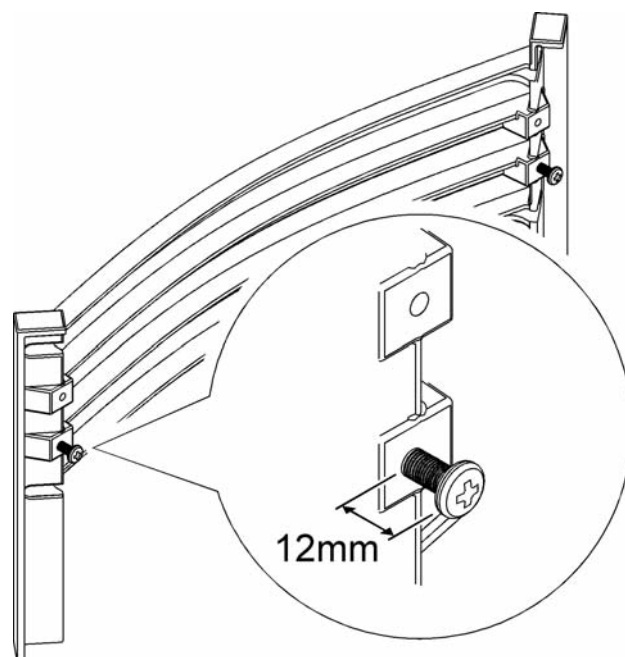

Figure 17.
2. The rear of the firefront may be fitted with hanging screws or they may be supplied in the firefront packaging. Where they are not already fitted insert them into the lower holes on both sides of the firefront. The distance between the firefront and the underside of the screw heads should be approximately 12mm. The screws can be adjusted to obtain the required fit (See figure 17).